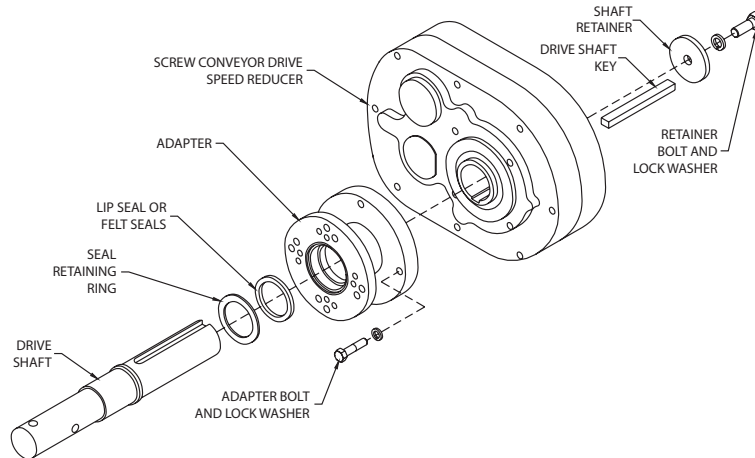

Figure 1 - Assembly
2. Position adapter on reducer output hub so that small end (end with 12 holes) rests on the reducer. Select the 4 mounting holes to match the shaft used (see Fig. 1).
Below 15 RPM output speed, oil level must be adjusted to reach the highest oil level plug. If reducer position is to vary from those shown in Figure 1, either more or less oil may be required. Consult Dodge.